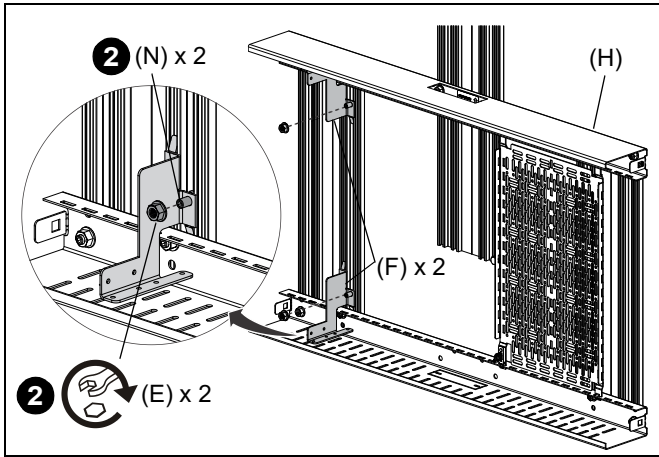

Figure 13
1. Remove two M8 flange nuts (E) from two M8 x 12mm bolts (N) inside the storage box (H). Hold the bolts in the desired mounting locations of the rack brackets (F).
2. Position two rack brackets (F) over the M8 x 12mm bolts (N) in the desired locations and secure using two M8 flange nuts (E). (See Figure 13)